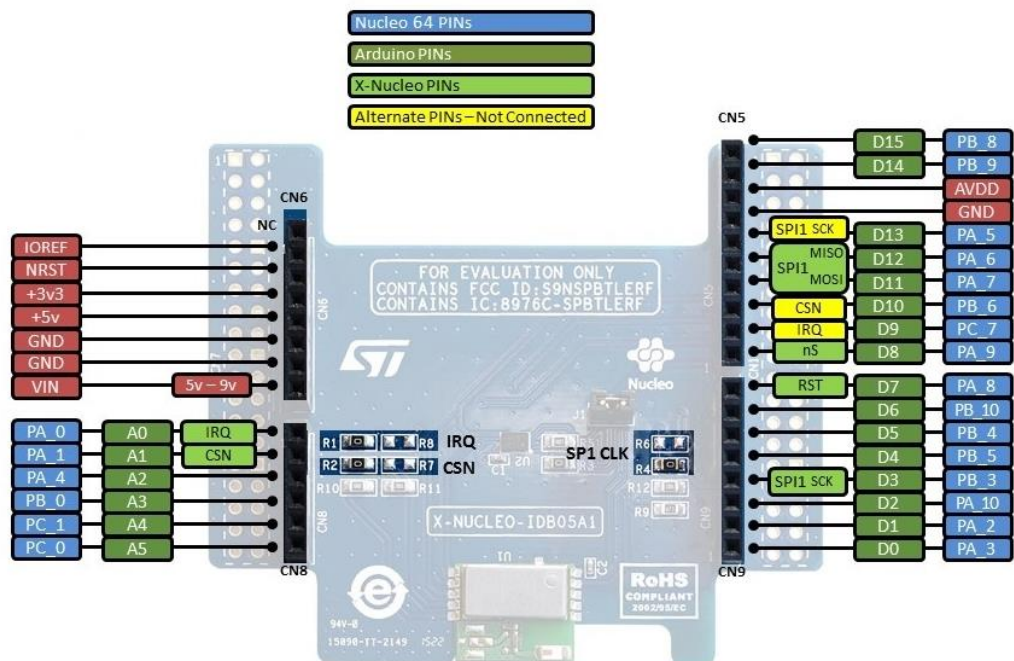

Figure 7 X-NUCLEO-IDB05A1 pinout
- Figure 7 X-NUCLEO-IDB05A1 pinout